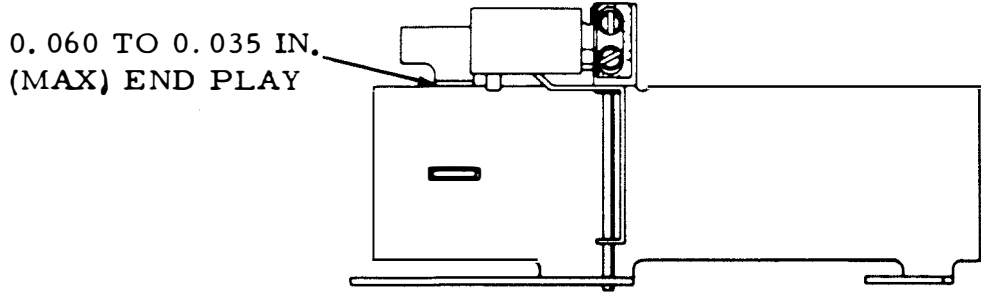

Figure 6-237. Tape Absence Contacts, Sensing Finger and Contacts Cable Assembly - Top View
- (a) Refer to figure 6-237.
(6) Tape Absence Contacts Cable Assembly Position